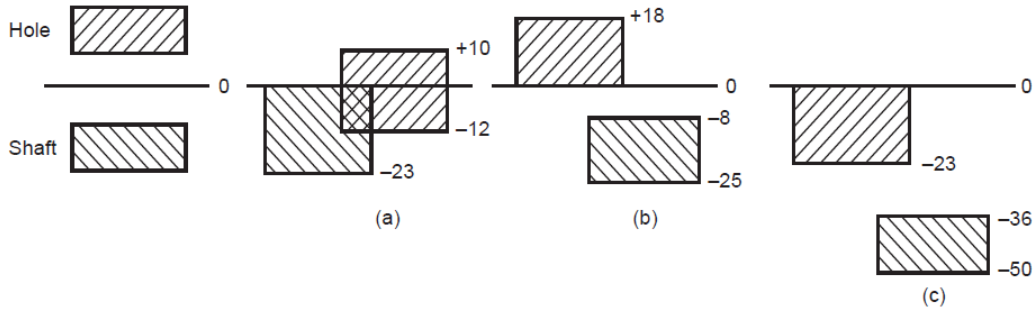

Figure 2
b) Determine the type of fit and calculate the clearance and or interference for the schematic tolerance zones shown in figure 2.